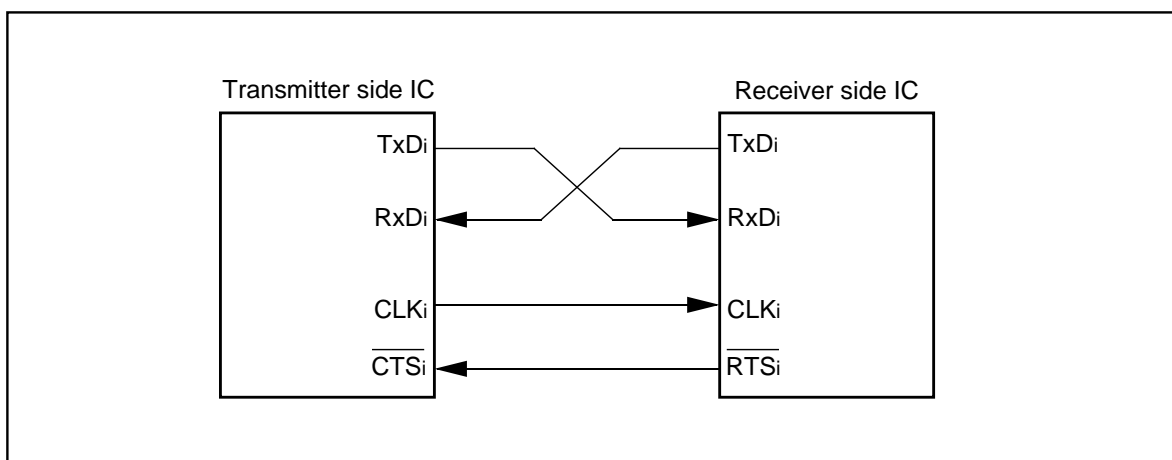

Figure 2.4.16. Example of wiring
- (1) With an external clock selected, and choosing the  $\overline{\text{RTS}}$  function, the output level of the  $\overline{\text{RTSi}}$  pin goes to "L" when the data-receivable status becomes ready, which informs the transmission side that the reception has become ready. The output level of the  $\overline{\text{RTSi}}$  pin goes to "H" when reception starts. So if the  $\overline{\text{RTSi}}$  pin is connected to the  $\overline{\text{CTS}}$  pin on the transmission side, the circuit can transmission and reception data with consistent timing. With the internal clock, the  $\overline{\text{RTS}}$  function has no effect. Figure 2.4.16 shows an example of wiring.